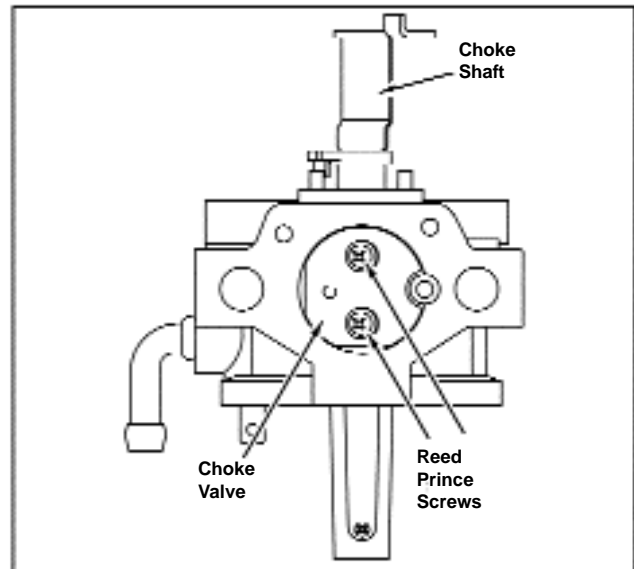

Figure 19 - Removing Choke Valve and Choke Shaft
1. Remove two (2) screws holding choke valve.
2. Remove choke and lift out choke shaft with both choke shaft bushings, choke shaft seal and choke shaft retainer, Figure 19.